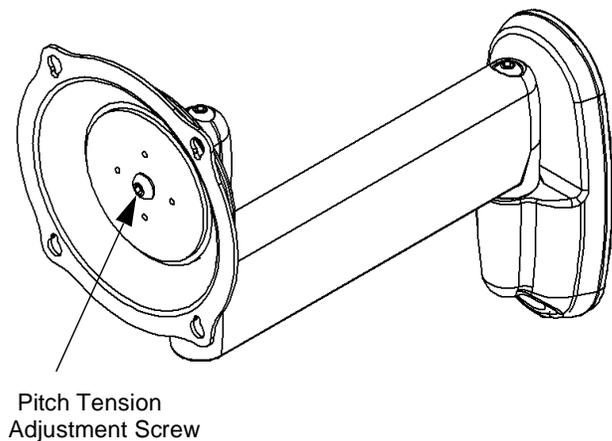

Figure 11: Pitch Adjustment
1. Check adjustment screw on the Centris interface to ensure that the screw is tight (see Figure 11).
2. If needed, use a 3/16" hex wrench (170) to tighten the screw.